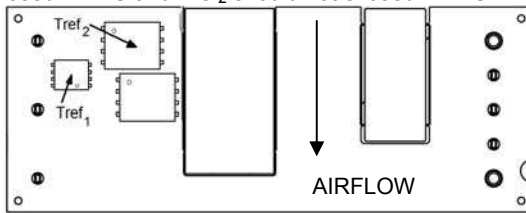

Figure 13. T_{ref} Temperature Measurement Location for Open Frame Module.
To provide protection under certain fault conditions, the unit is equipped with a thermal shutdown circuit. The unit will shutdown if the thermal reference point T_{ref} (Figure 13), exceeds $128^{\circ}C$ (typical), but the thermal shutdown is not intended as a guarantee that the unit will survive temperatures beyond its rating. The module can be restarted by cycling the dc input power for at least one second or by toggling the remote on/off signal for at least one second. If the auto-restart option (4) is ordered, the module will automatically restart upon cool-down to a safe temperature.
The thermal reference points, T_{ref1} and T_{ref2} used in the specifications for open frame modules are shown in Figure 13. For reliable operation T_{ref1} should not exceed 122°C and T_{ref2} should not exceed 124°C